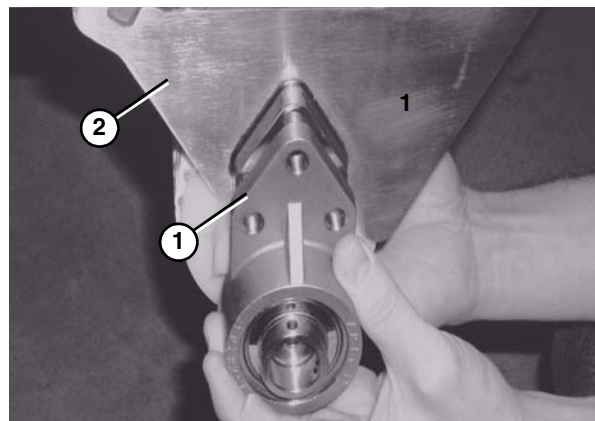

Figure 63
- Disconnect the 3 hole flange bearing (**Figure 63, item 1**) from the nose bar drive weldment (**Figure 63, item 2**).